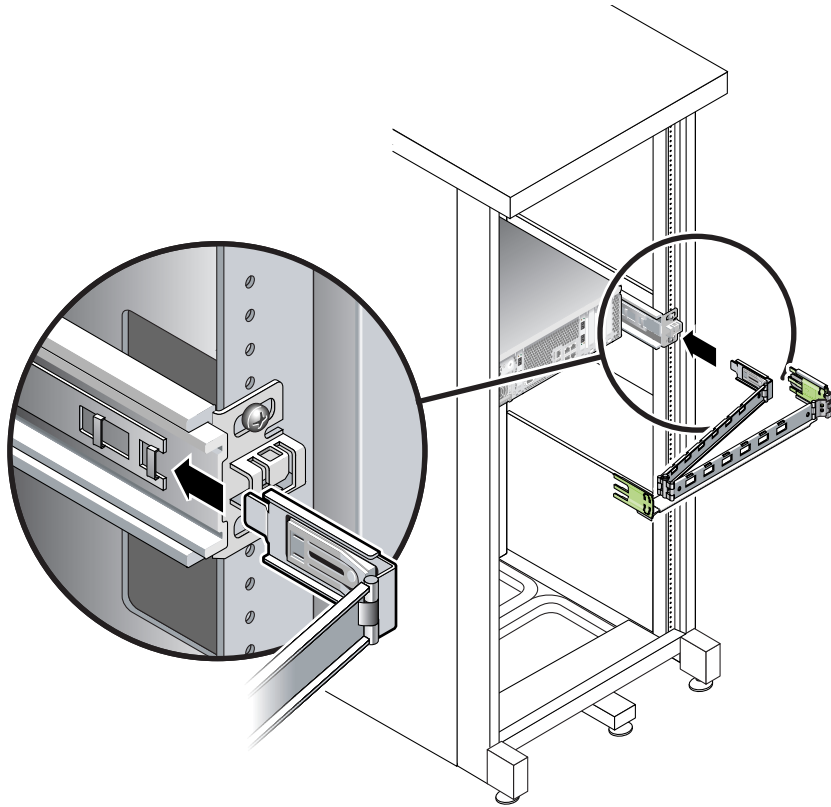

FIGURE 2-19 Mounting the Inner CMA Connector
2. Insert the smaller extension into the clip located at the end of the mounting bracket (FIGURE 2-19).